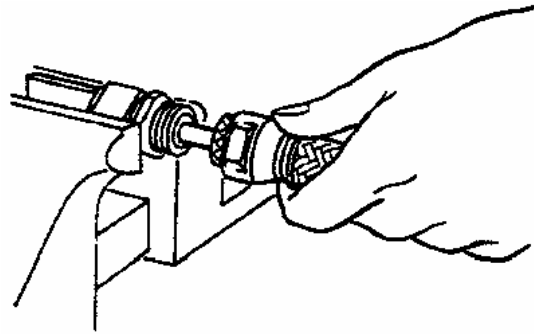

Figure 4. Positioning Socket and Nipple
r. Slide socket forward and thread onto nipple by hand (Figure 4).